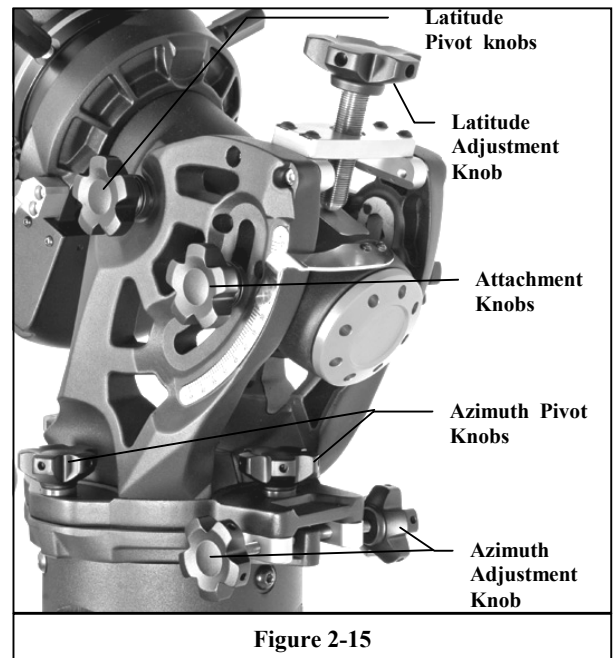

Figure 2-15
Before adjusting the mount in altitude or azimuth you must first *slightly* loosen both the latitude pivot knobs and azimuth pivot knobs. See Fig 2-15
1. Turn the azimuth adjustment knobs located on either side of the azimuth housing (see Fig 2-15).